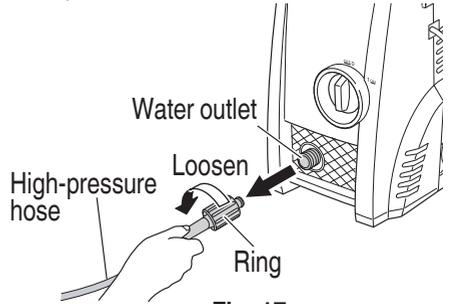

Fig. 17
3. Removing the high-pressure hose (Fig. 17)